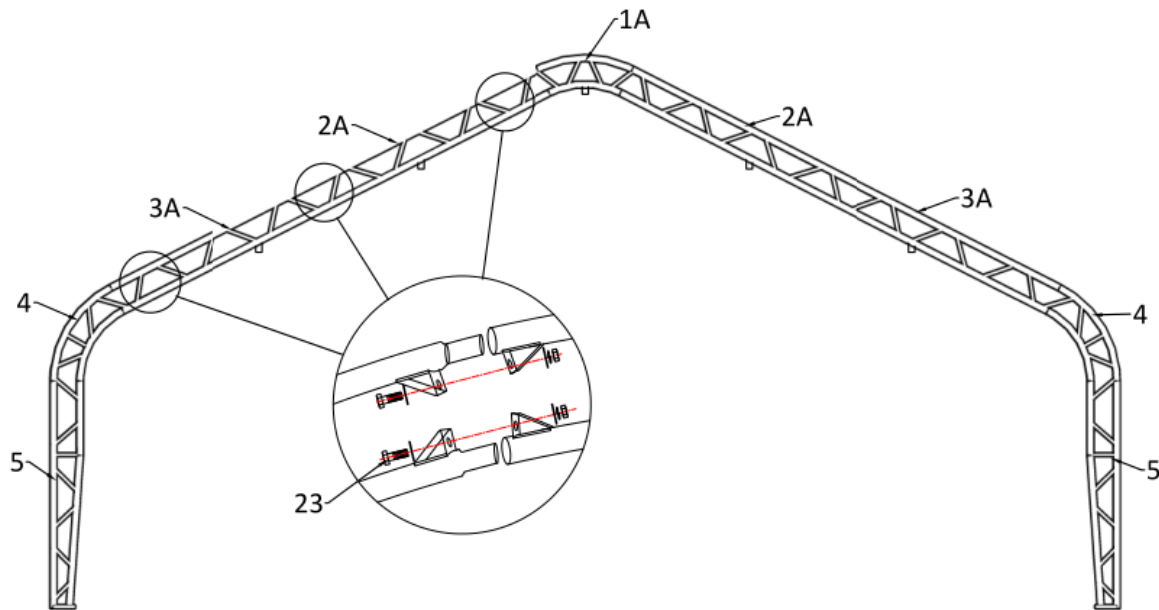

Figure 3
1. Figure 3 shows to connect the top roof tube (No.1A), roof curing tube (No.2A), roof curving tube at shoulder (No.3A), sidewall tube (No.4) and standing leg (No.5) with bolt M12x40mm (No.23), then put the arch into tube of the base flange by hoist.